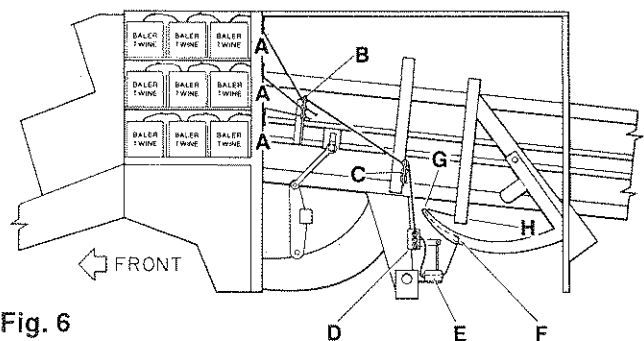

Fig. 6
2. Route twine through the three guides (located top, center and bottom) on the rear of the twine box, see (A), Fig. 6.
3. Route twine through the guides near the middle of the chamber, (B); and through the guides mounted forward of the baler tires near the bottom of the chamber, (C); then, through the guides just above the baler axle, (D); see Fig. 6.
5. Thread the twine through the needle rollers, (F), see Fig. 6, located 22 inches from the tip of the needles; then through the needle eyes, (G), located at the tip of the needles.
6. Tie each twine to the cross member located above the twine tensioners on the bottom of the chamber, (H). Each twine should be individually tied directly above the twine tensioner through which it is threaded.